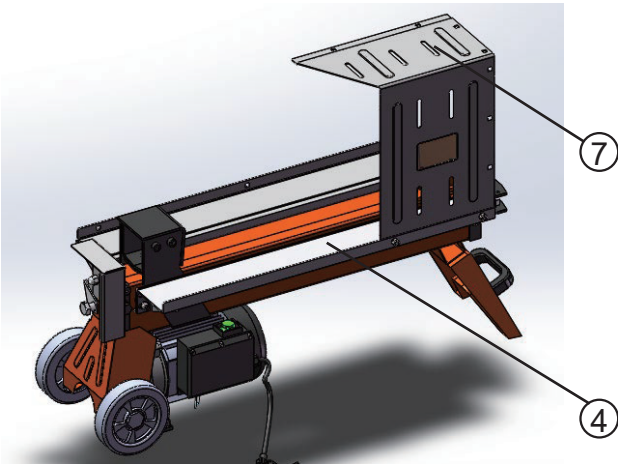

Figure 1a
1. Insert the left cover (7) into the groove of the left support plate (4), Ensure that the square hole on the left cover (7) is aligned with the square hole of the left support plate (4). Use 2 x bolt M8x16 (2) and 2 x nut M8 (6) to tighten the left cover (7) and the left support plate (4). As shown in Figure 1a and 2a.